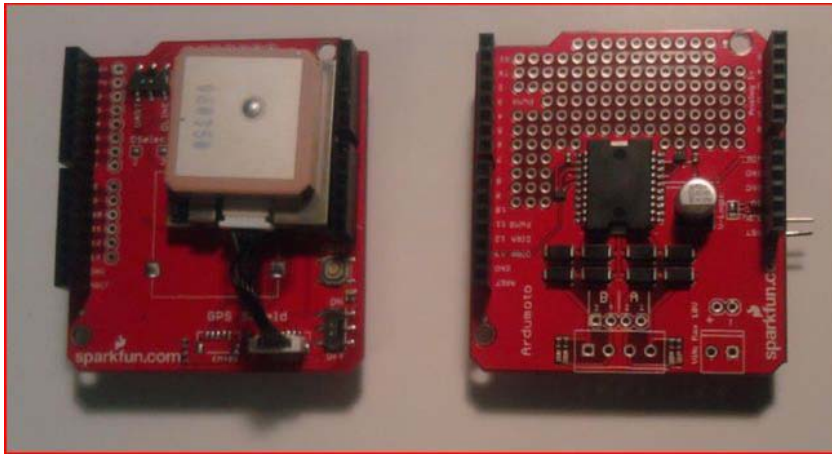

Figure 1-4. A couple of Aeduino Shields the GPS Shield on the left and the motor shield on the right.
- *Arduino shields:* We will be using several shields in this book, including the Motor, GPS, GSM, and LCD shields (see Figure 1-4).